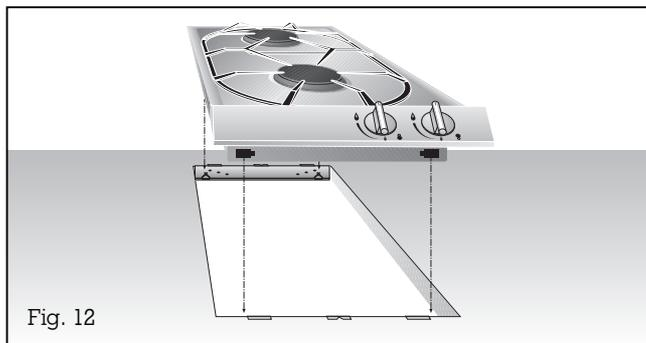

Fig. 12
- **Lower the appliance into the worktop.** Make sure that the engaging lugs on the appliance lie exactly on the clamping springs. Press the appliance firmly into the worktop. The engaging lugs on the appliance “snap” into the clamping springs (Fig. 12).